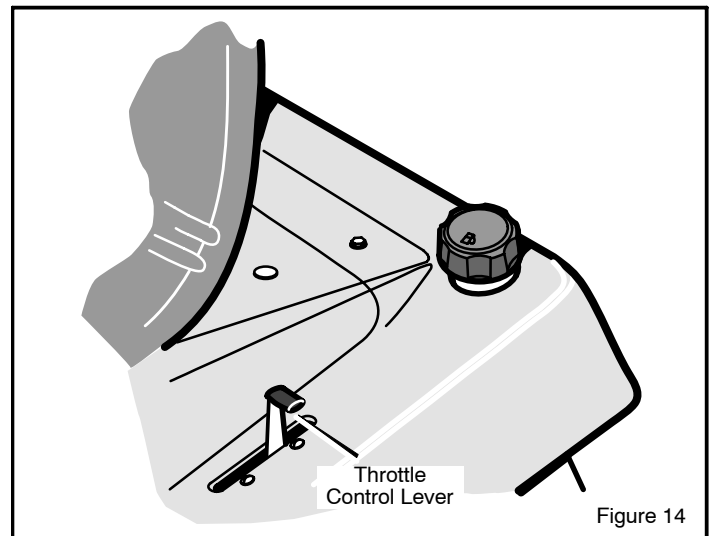

Figure 14
3. Move the throttle control to the FAST position (see Figure 14).